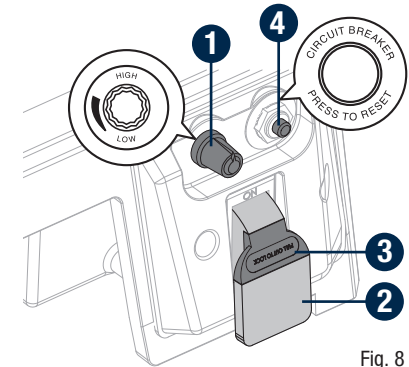

Fig. 8
ON/OFF SWITCH (Fig. 8)
The safety key (3) can be removed from the switch when it is in the Off position. With the key removed, the switch is locked in that position and the lathe cannot be started. Store the key in a safe place when the lathe is left idle (Fig. 8).